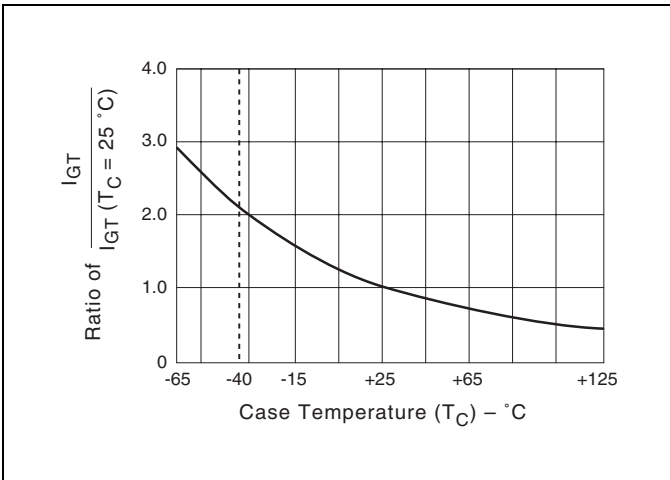

Figure E4.8 Normalized DC Gate Trigger Current for all Quadrants versus Case Temperature
- See Figure E4.8 for IGT versus TC.